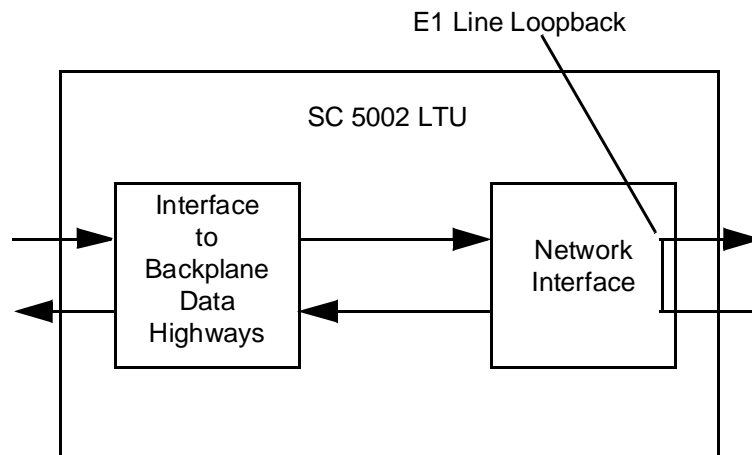

Figure 5-2 E1 Line Loopback
The E1 Line Loopback test causes the LTU to loop received data back in the network interface as transmit data as illustrated in *Figure 5-2*. The Test Mode (TM) indicator on the LTU front panel is lit while the loopback is active.